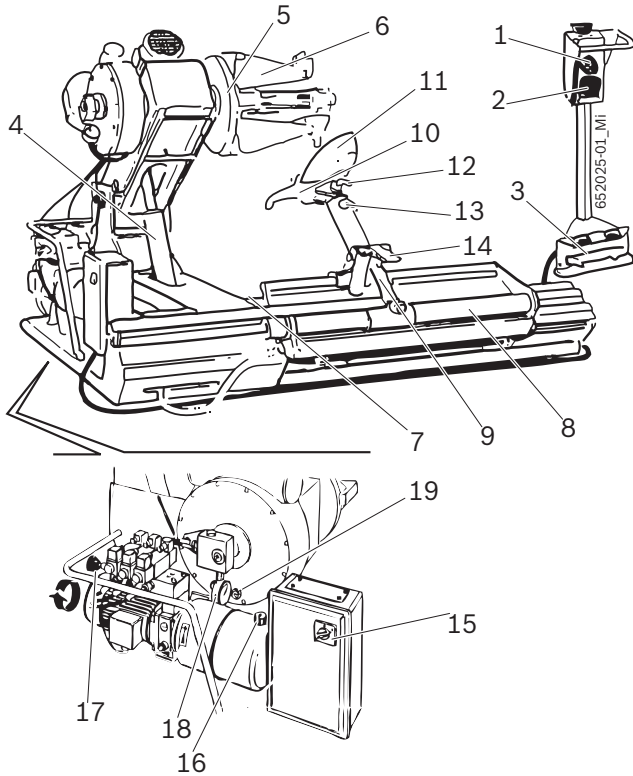

Fig. 1: TCE 5320
The locking flange is driven by the high pressure hydraulic circuit, adjustable from 20 to 130 bar by turning the dedicated knob (Fig. 1, pos. 17) and reading the value on the manometer (Fig. 1, pos. 18). The normal working pressure is 130 bar. For weak or particularly thin rims it is necessary to decrease this pressure.
For wheels having a diameter of less than 800 mm or more than 1500 mm, it is suggested to take off the mounting tool pin (Fig. 1, pos. 12) and put it in the second hole.